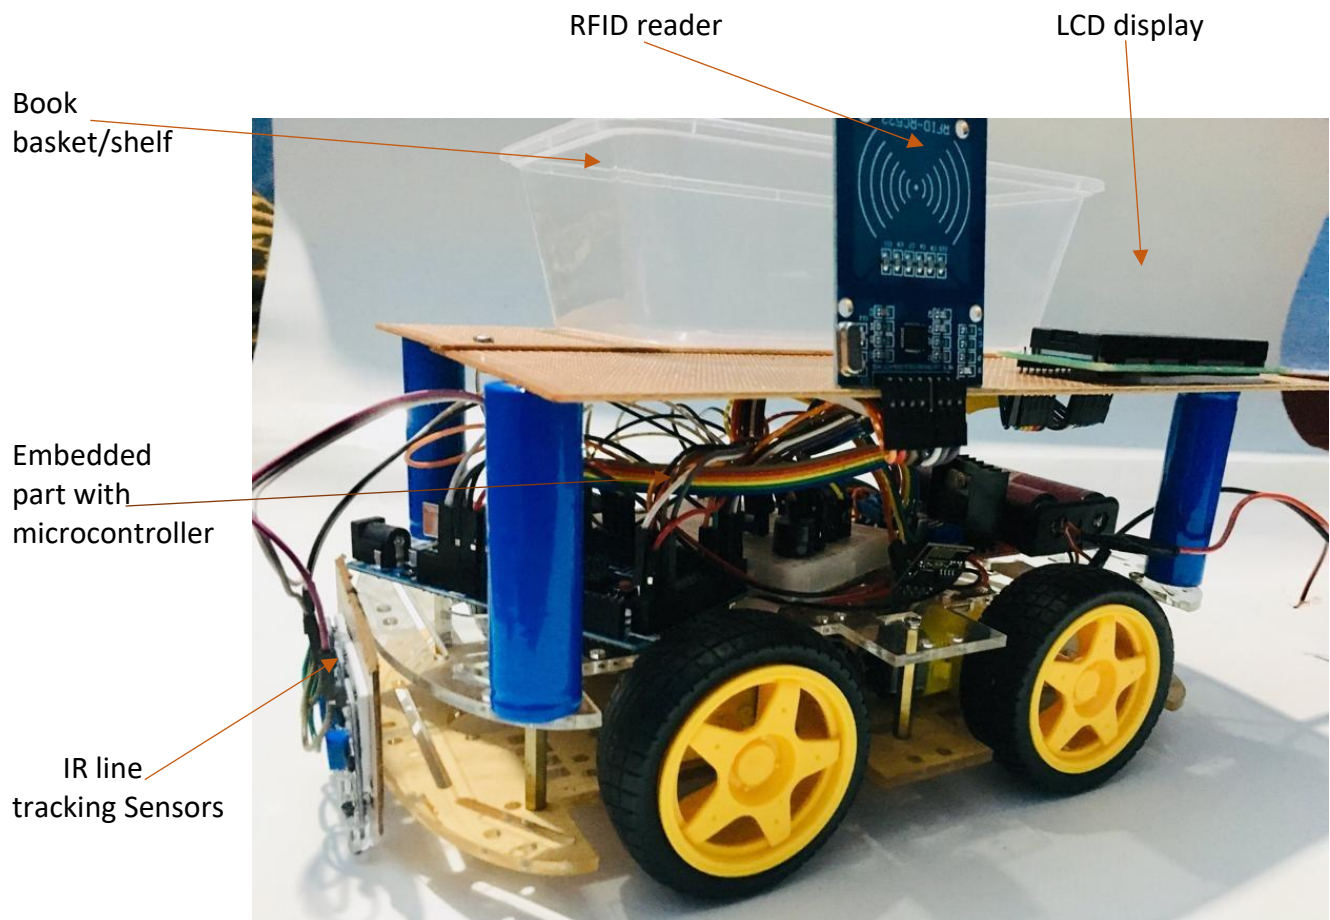

Figure1: Overall view of the line following robot
3. Next, keep your books ready to scan and scan the RFID that is attached on each book using the RFID reader shown in figure 1 to get it identified by the robot. This setup is able to scan one book at a time.
4. After that, keep the books carefully in the appropriate book shelf that is placed just above the robot as shown in figure 1.
6. After you finished scanning the limited no of books, you can see “Fully Loaded” message displayed on the LCD shown in figure 1. At that point of time you can stop loading the books.